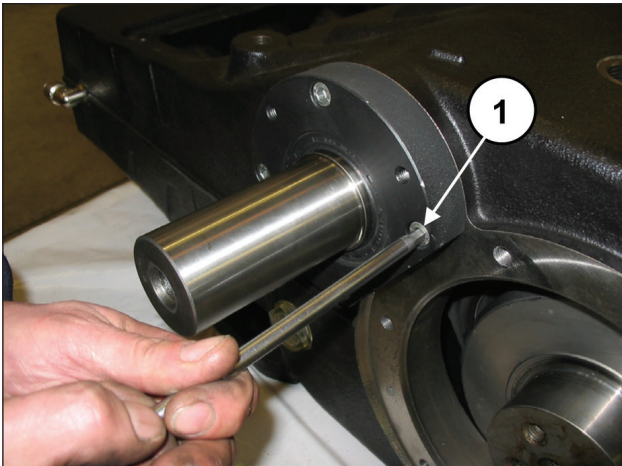
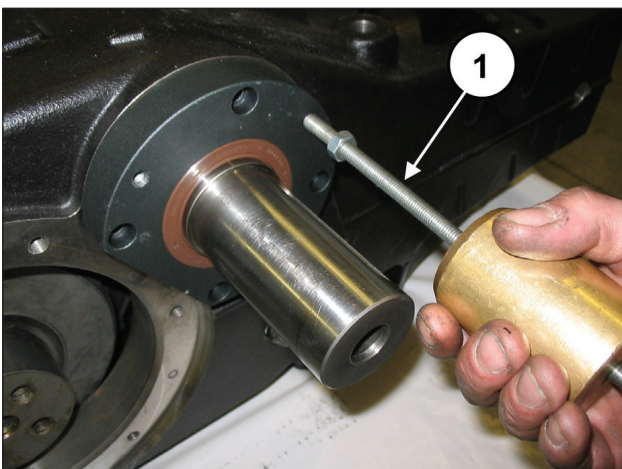

Fig. 27
Fig. 28
Unscrew the fixing screws of the left and right PTO bearing cover (pos. ①, Fig. 27) and withdraw two covers from the PTO shaft. To help with their removal, use 3 x M8 grub screws or screws (pos. ①, Fig. 28) as extractors.